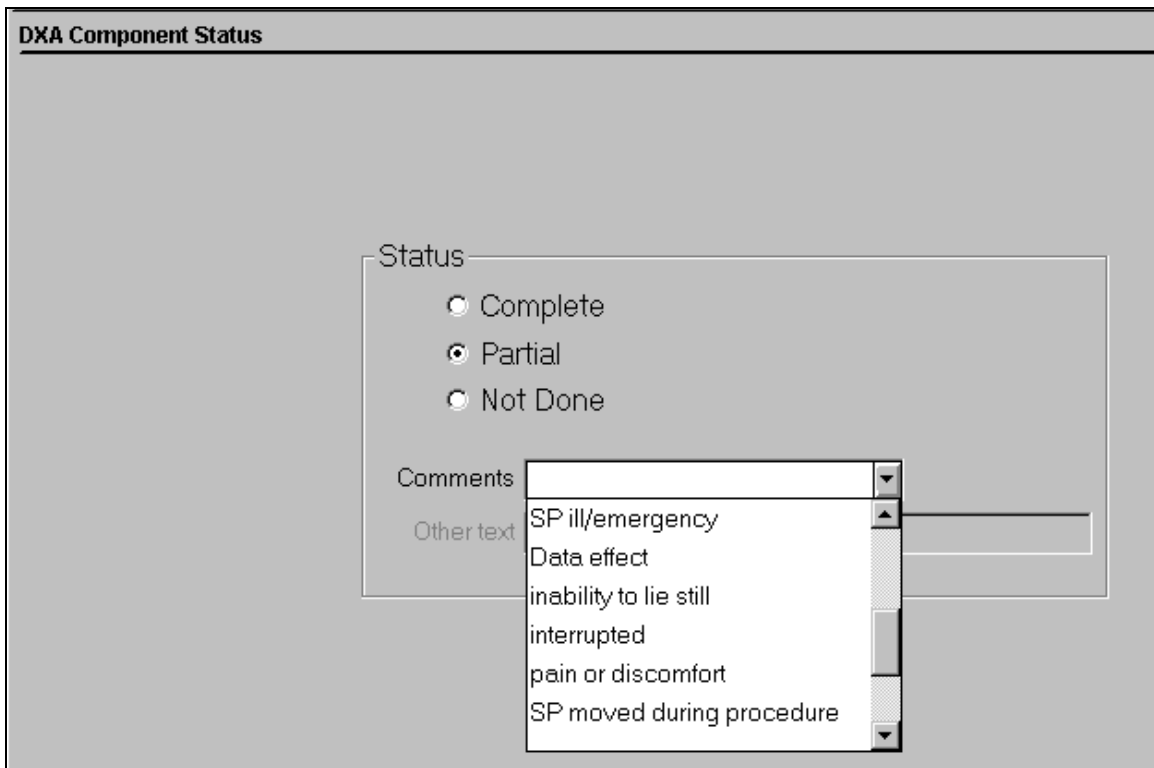

Figure 4-29. DXA component status (2)
- Other comments in the drop-down box are shown in Figure 4-29: